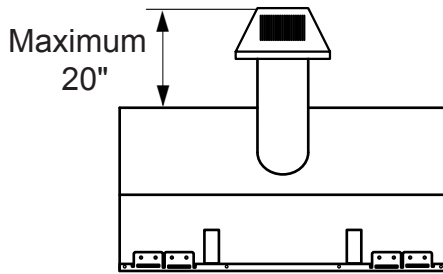

Figure 11 - Rear Vent Application, Maximum Horizontal Distance
- The maximum horizontal distance between the rear of the appliance and the outside of termination is 20" (508 m). See Figure 11.
1. Locate and cut the vent opening in the wall. For combustible walls first frame in opening. See Figure 11.
3. Attach vent pipe assembly to the fireplace. Set fireplace in front of its permanent location to insure minimum clearances. Mark the wall for a 9 "H x 9 "W (229mm x 229mm) rectangle hole (for noncombustible material such as masonry block or concrete, a 7½" [190mm] diameter hole is acceptable). See Figure 11. The center of the hole should line up with the center line of the horizontal rigid vent pipe end. Be sure to allow for minimum rise.